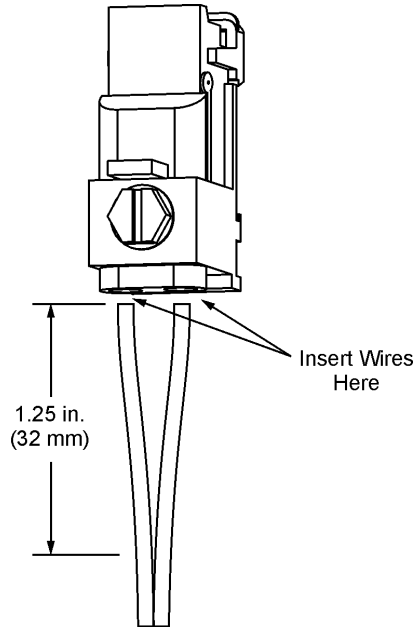

Figure 1-6: Prepare Wires
7.	Insert the wires as shown in Figure 1-6.